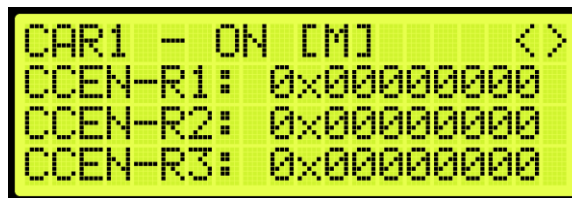

Figure 378: Rear Car Call Enable Bitmap Status Menu
16. From the Rear Car Call Enable Bitmap Status (See Figure 378), press the right button.